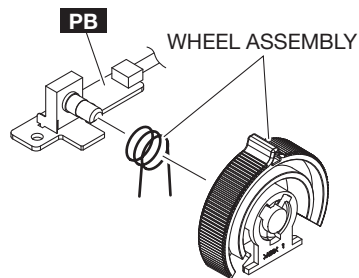

Fig.6
2. Pull out and remove the wheel assembly from the PB circuit board. (Fig.6)